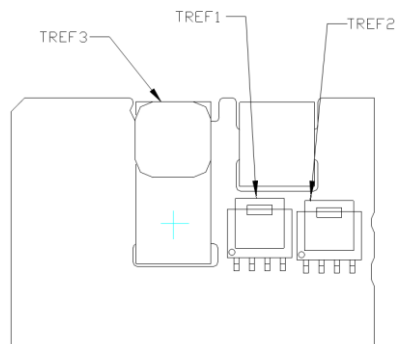

Figure 43. T_{ref} Temperature Measurement Locations.
To provide protection under certain fault conditions, the unit is equipped with a thermal shutdown circuit. The unit will shutdown if the thermal reference point T_{ref} (Figure 43), exceeds 125°C (typical), but the thermal shutdown is not intended as a guarantee that the unit will survive temperatures beyond its rating. The module can be restarted by cycling the dc input power for at least one second or by toggling the remote on/off signal for at least one second. If the auto-restart option (4) is ordered, the module will automatically restart upon cool-down to a safe temperature.
The thermal reference point, T_{ref} used in the specifications is shown in Figure 43. For reliable operation this temperature should not exceed 120°C.